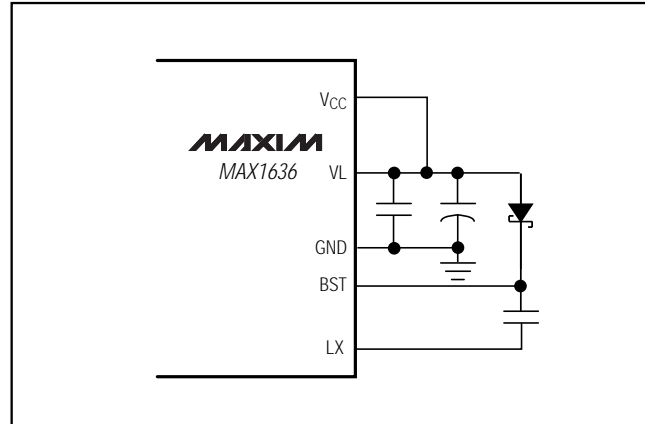

Figure 7. Capacitor Placement
- Place the IC and signal components. Keep the main switching nodes (LX nodes) away from sensitive analog components (current-sense traces and REF capacitor). Place the IC and analog components on the opposite side of the board from the power-switching node. **Important:** The IC must be no further than 10mm from the current-sense resistors. Keep the gate-drive traces (DH, DL, and BST) shorter than 20mm and route them away from CSH, CSL, and REF. Place ceramic bypass capacitors close to the IC. The bulk capacitors can be placed further away. If using VL to power VCC, minimize noise by placing a 0.1μF capacitor close to the VCC pin and placing the 4.7μF capacitor further away, but closer than the boost diode (Figure 7).